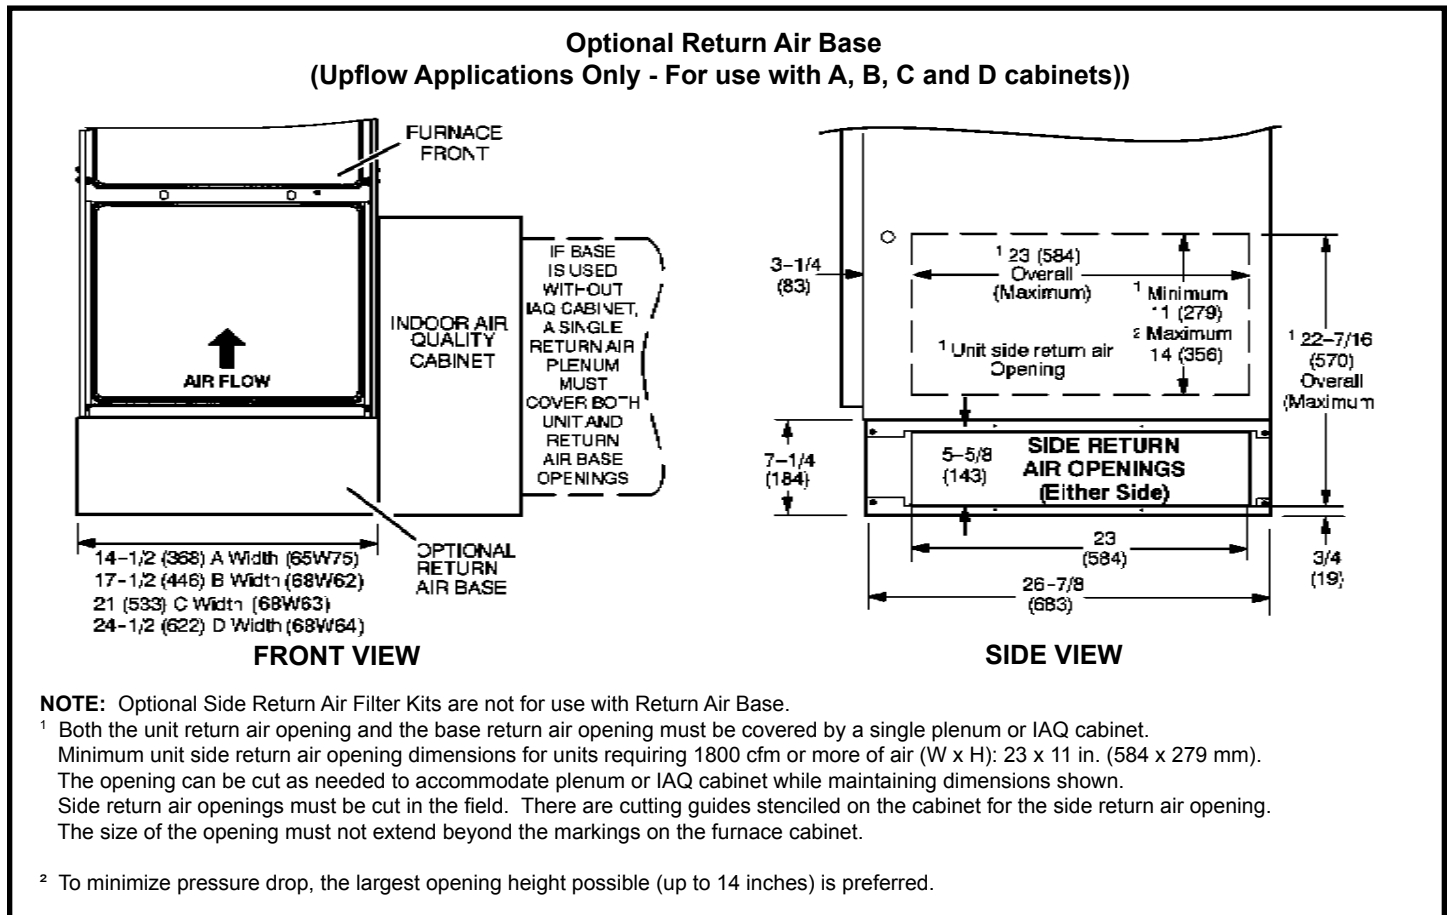

Figure 10
2. **Single side return air with optional return airbase. See Figure 10.**